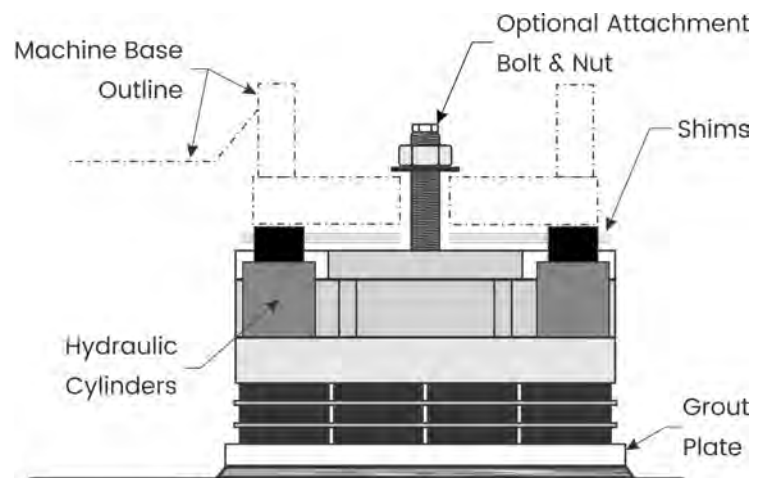

Figure 8
- **MXBP** isolation elements can use external lifting devices or hydraulic cylinders can be placed within the element to raise the machine foot off the element to insert shims. See Figure 8.